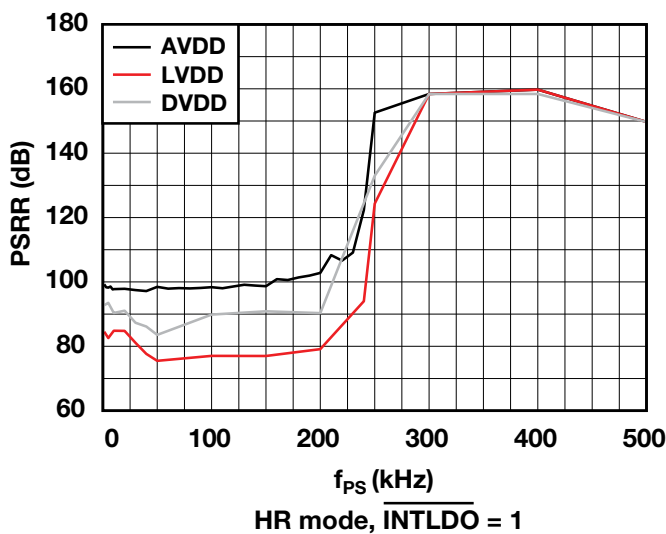

Figure 8. $T_A = 25^\circ\text{C}$, $AVDD = 3.3\text{ V}$, $V_{REF} = 2.5\text{ V}$, HR mode, $INTLDO = 1$.
In Section 6.1, I looked at the PSRR for each of the power supplies used by the TI ADS127L01 (shown again in Figure 8). Like most ADCs, the ADS127L01 uses both an analog and a digital supply (AVDD and DVDD, respectively). I chose this device for our discussion because it also requires a third LVDD supply. LVDD directly powers the delta-sigma modulator in the ADS127L01. The LVDD supply can either be provided from an internal LDO (connected to AVDD) or from an external LVDD supply source. As you'll see later, driving LVDD externally with a noisy supply will have the most adverse effect on ADC noise performance.
From Figure 8, you can see that LVDD is most susceptible to coupling noise into the ADC output because it has the lowest PSRR of the three supplies. LVDD is most sensitive to noise because it directly powers the delta-sigma modulator, which in turn directly controls the analog-input-to-digital-output conversion process. Comparatively, AVDD powers the remaining analog circuitry, including generating the main bias current, but this has less of a direct impact on the conversion results. Powering the ADC's digital core, DVDD has the least impact on the conversion results because the modulator output is already in binary form when it reaches the digital decimation filter. For devices that require multiple supplies, it's best to prioritize the supply that most directly powers the delta-sigma modulator, which is typically AVDD.
Ultimately, these experiments confirm the results in **Figure 8** while reiterating that some supplies—especially the one that feeds the delta-sigma modulator—are more susceptible to power-supply noise than others, and may require special care to maintain a high PSR.
- Frequency planning.** Another technique you can use to mitigate power-supply noise employs frequency planning, either for the switching regulator or your ADC. As discussed at the beginning of Chapter 6 and reiterated in **Figure 8**, ADCs can exhibit different PSRR characteristics on each supply. Additionally, all ADC supplies will see a large boost in PSRR at frequencies that fall within the digital filter stop band (see **Figure 8**). In delta-sigma ADCs, the digital filter response repeats at multiples of the modulator frequency (f_{MOD}). Therefore, switching noise may still alias into the ADC pass band if this noise happens to fall near the modulator frequency or any multiple thereof.